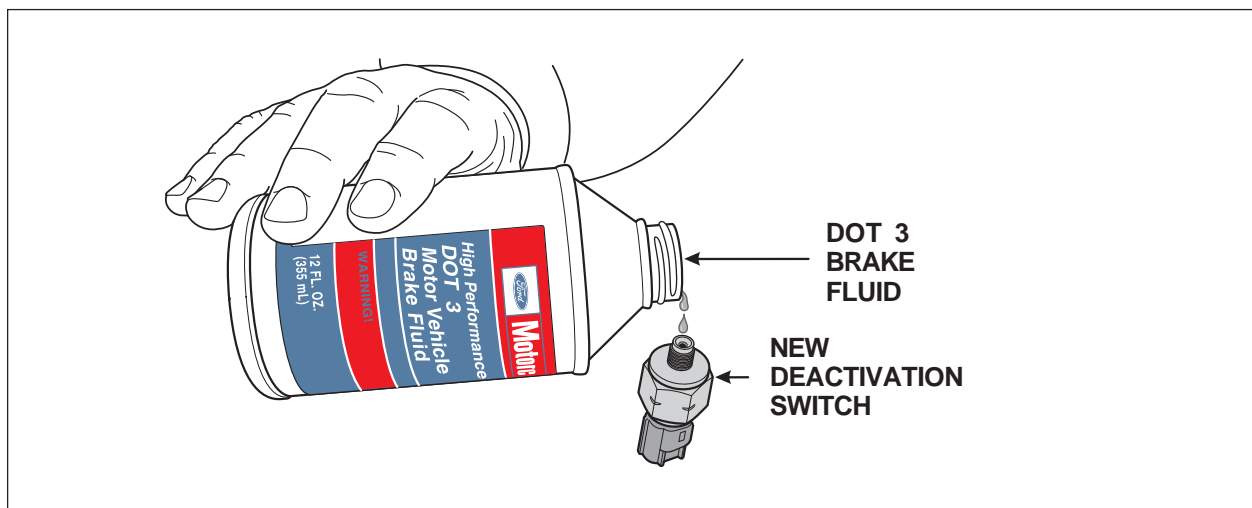

FIGURE 4
2. Add a few drops of Motorcraft High Performance DOT 3 Motor Vehicle Brake Fluid, PM-1-C (US), CPM-1-C (Canada), to the fluid port at the threaded end of the **new** SCDS (See Figure 4).